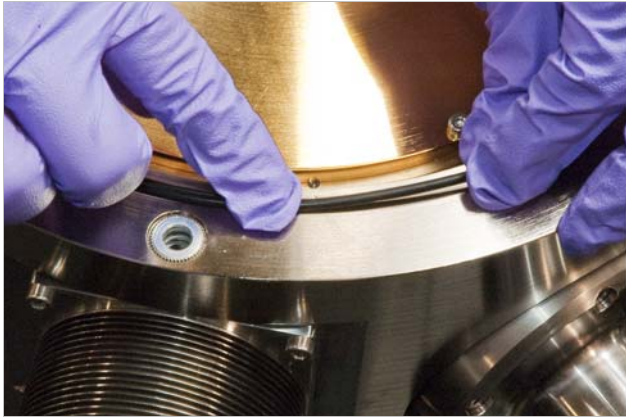

FIGURE 4-8 Left: Placing the o-ring in the chamber groove; Right: Placing the chamber lid onto the o-ring
3. Clean the o-ring groove in the vacuum chamber. Clean, inspect and lightly grease the o-ring with vacuum grease and place it in the groove. (FIGURE 4-8). Make sure that the o-ring does not twist as it is being installed.
4. Place the vacuum chamber lid onto the o-ring (FIGURE 4-8).